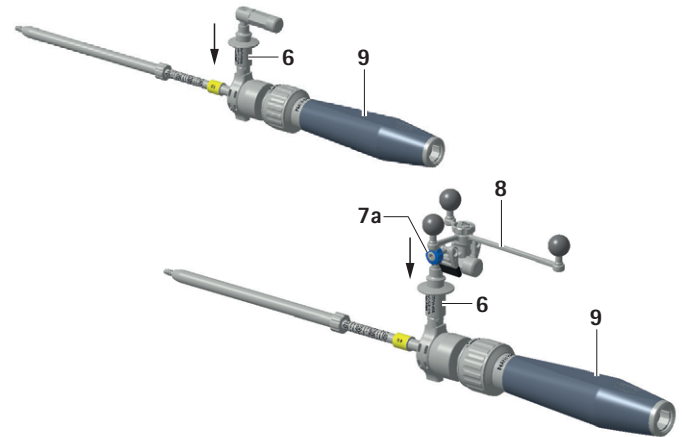

Fig. 10
- ▶ Mount the universal navigation adapter L-shape **6** onto the navigation handle **9**, see Fig. 10.
- ▶ Mount the Brainlab instrument adapter array size L **8** onto the Brainlab instrument adapter softgrip clamp size L **7a** (55113) as described in the Brainlab user manual and as can be seen on the bottom of the image, see Fig. 10.